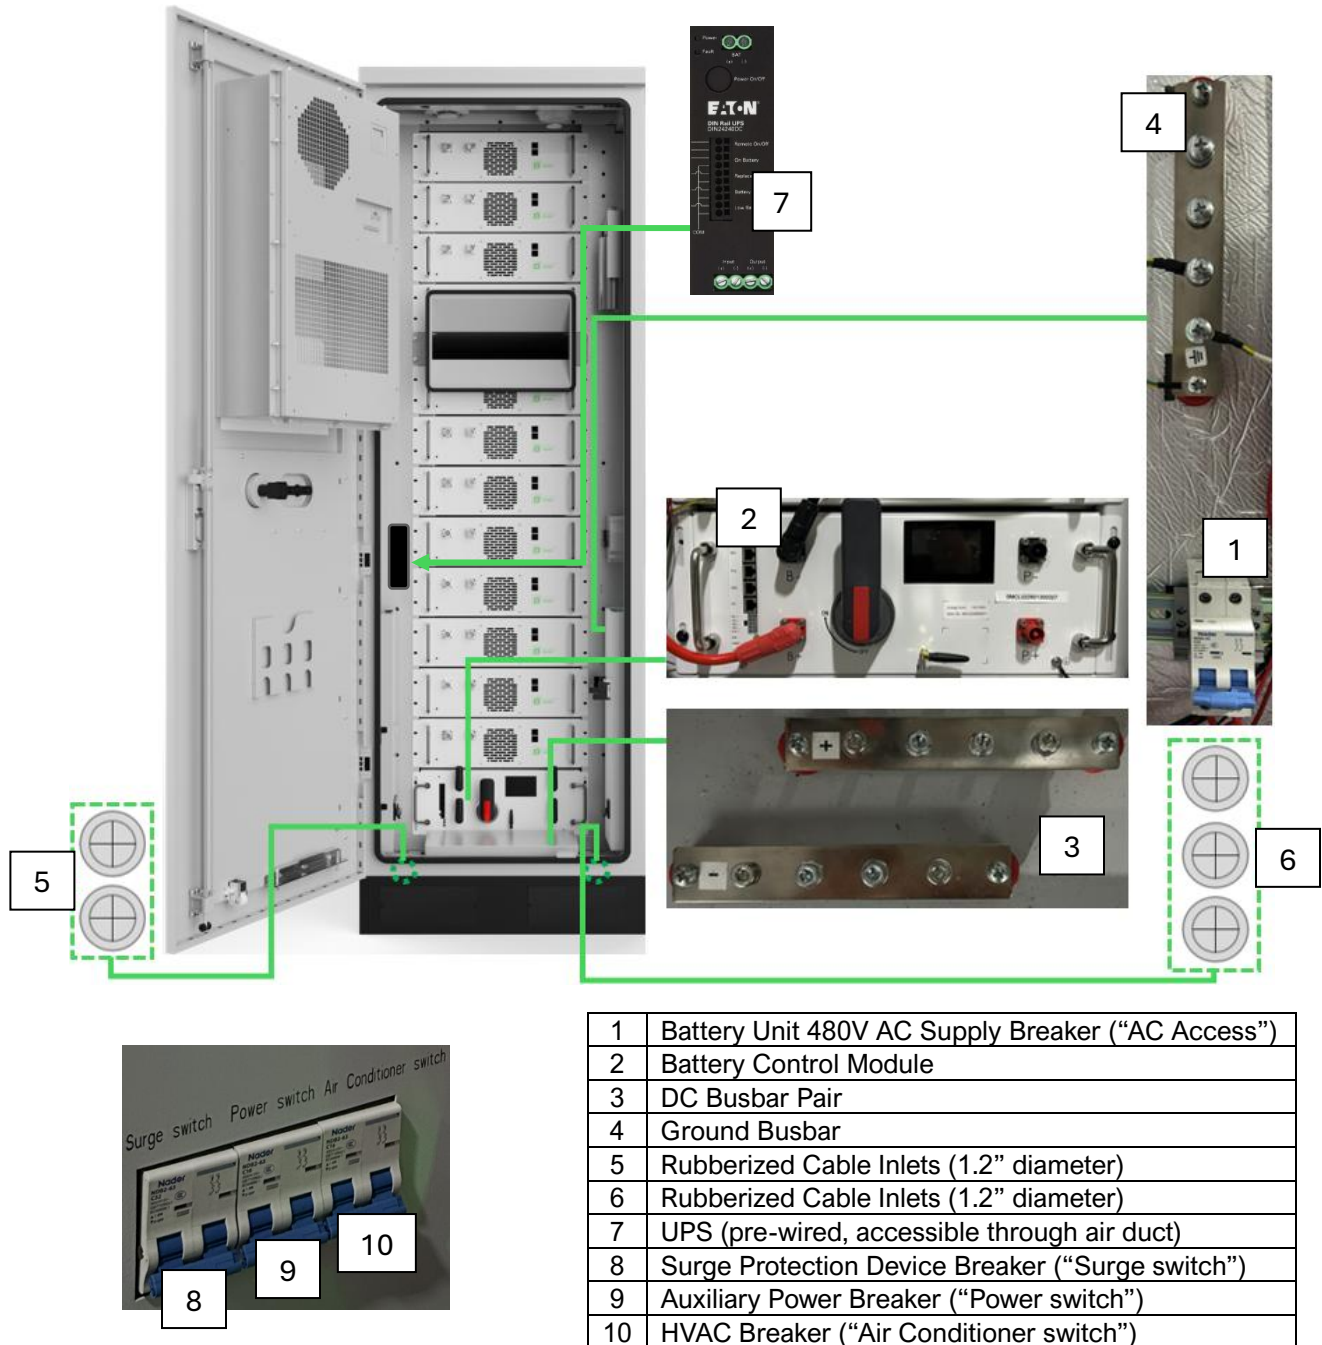

Figure 2: Notable Items (interior)
In 480V applications, deliver the 480V AC supply (one phase of the 480V three-phase AC) from the backed-up circuit to the 480V AC supply breaker (“AC Access”) (or breakers, if multiple batteries), **see item 1 in Figure 2** and the next illustration.
In 208V applications, deliver the 208V AC supply (one phase of the 208V three-phase AC) from the backed-up circuit to the surge protection device breaker (“Surge switch”) (or breakers, if multiple batteries), **see item 8 in Figure 2** and the next illustration.